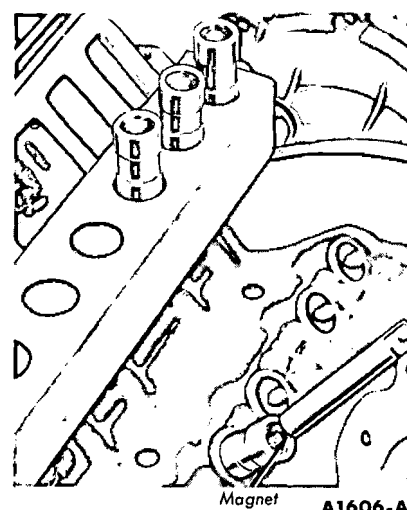

FIG. 45—Valve Lifter Removal
13. Using a magnet, remove the valve lifters and place them in a rack so that they can be installed in their original bores (Fig. 45).
5. Using a magnet, remove the valve lifters and place them in a rack so that they can be installed in their original bores (Fig. 45).